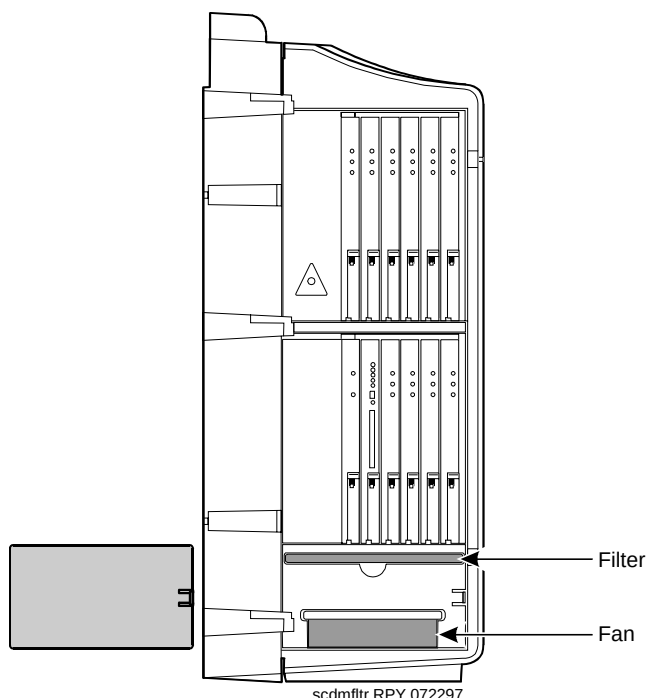

Figure 1-6. Fan/Filter Removal
2. Remove the fan/filter access panel. See Figure 1-6.